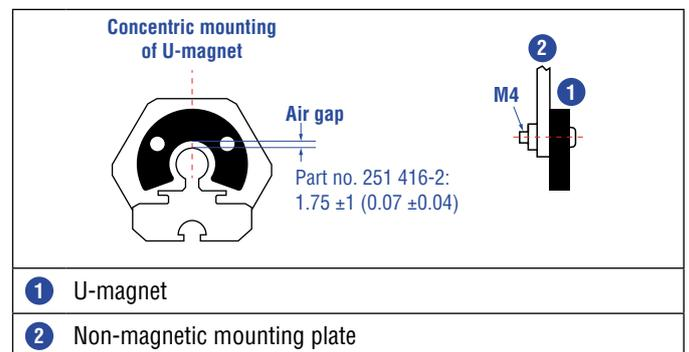
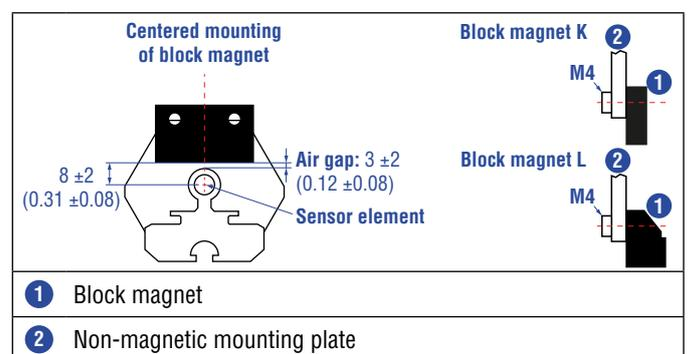

Fig. 68: Mounting of U-magnet (part no. 251 416-2)
Fig. 69: Mounting of block magnet (part no. 403 448)
- Mount block magnets centrally over the sensor rod or the sensor profile. The maximum permissible air gap must not be exceeded (Fig. 68/ Fig. 69).